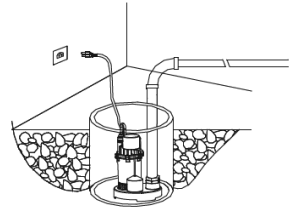

Fig. 4
5. Connect the discharge pipe to the other end of the flexible connector and tighten the clamp with a screwdriver (Fig. 4).